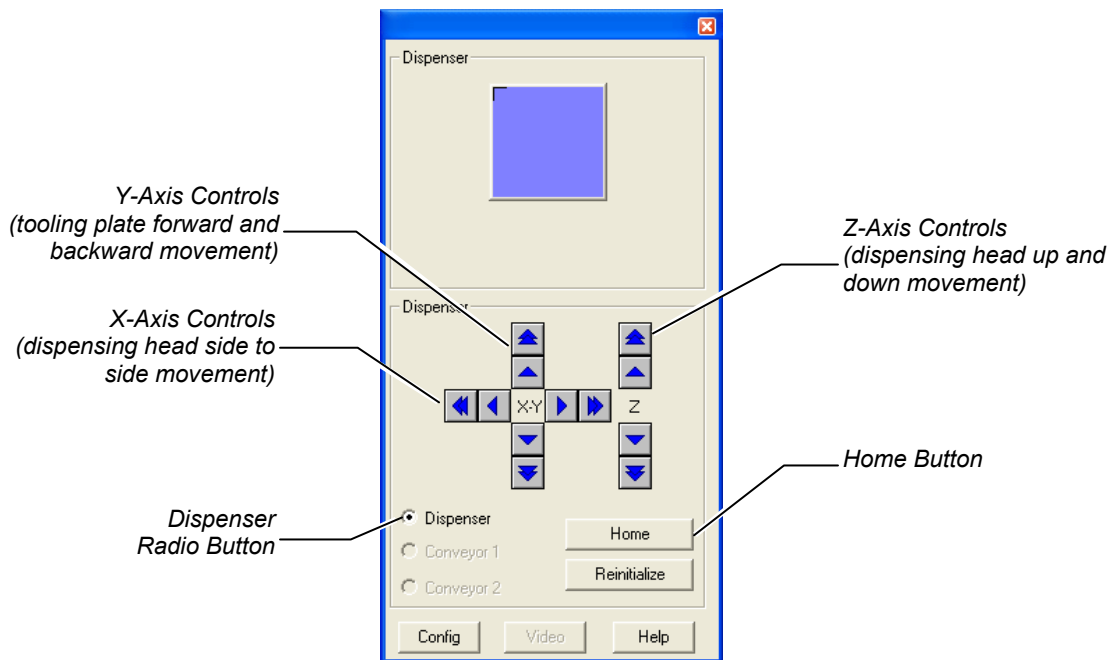

Figure 3-3 Position Control Dialog Box
- ▶ The Position Control dialog box (Figure 3-3) opens.